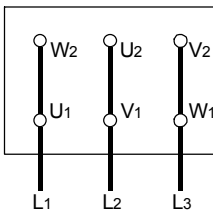

Fig. 12a. Δ - connection
- The mains connection on the tagboard depends on the nominal power of the motor, the power supply and the type of connection. The necessary connection of the bridges in the terminal box is shown in the following (Table 1. and Fig. 12a, 12b, 12c).